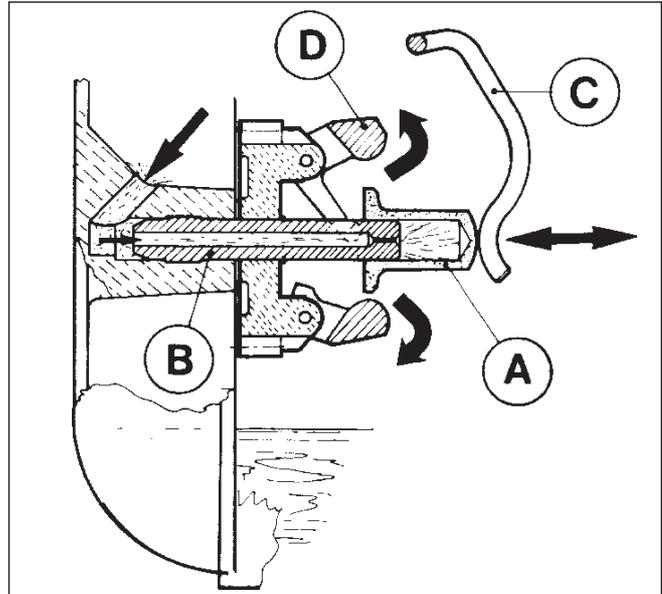

Fig. 34
**Oleomatic Governor (Fig. 34)**